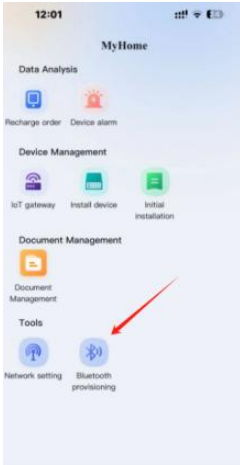

Figure 1
(1) Preparation: The mobile phone used for operation should first connect to their desired WIFI and turn on the phone's Bluetooth function.
(2) After powering on the wireless controller, wait for it to enter the main interface. If the WiFi icon in the upper-right corner remains off (indicating unpaired status), proceed with Bluetooth network configuration directly via the APP.
(3) If the WiFi icon keep on lighting, please long press and hold the "power" and "settings" icons for 1 second. Wait until the WiFi icon blinks rapidly for several seconds and then turns off, indicating the WiFi connection has been terminated. Then proceed with Bluetooth pairing via the APP.
(4) Open the "MaxT" APP, go to 'More' and select 'Bluetooth provisioning' (as shown in Figure 1).